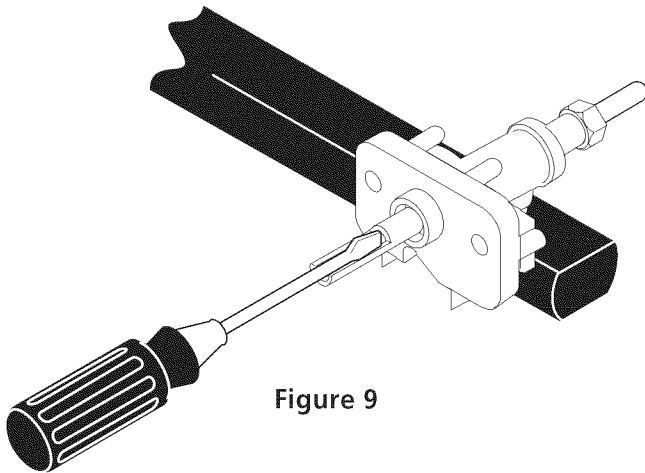

Figure 9
4. Adjust the "LOW" Setting of Regular Burner (see figure 8) on the Surface Burner Valves (Figure 9):